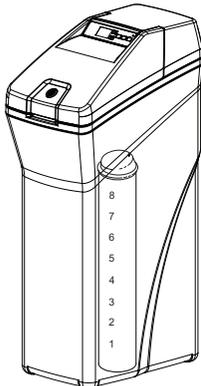

Figure 13
2. Determine level of salt in brine tank using the numbered scale on side of brine well, inside brine tank (see Figure 13).